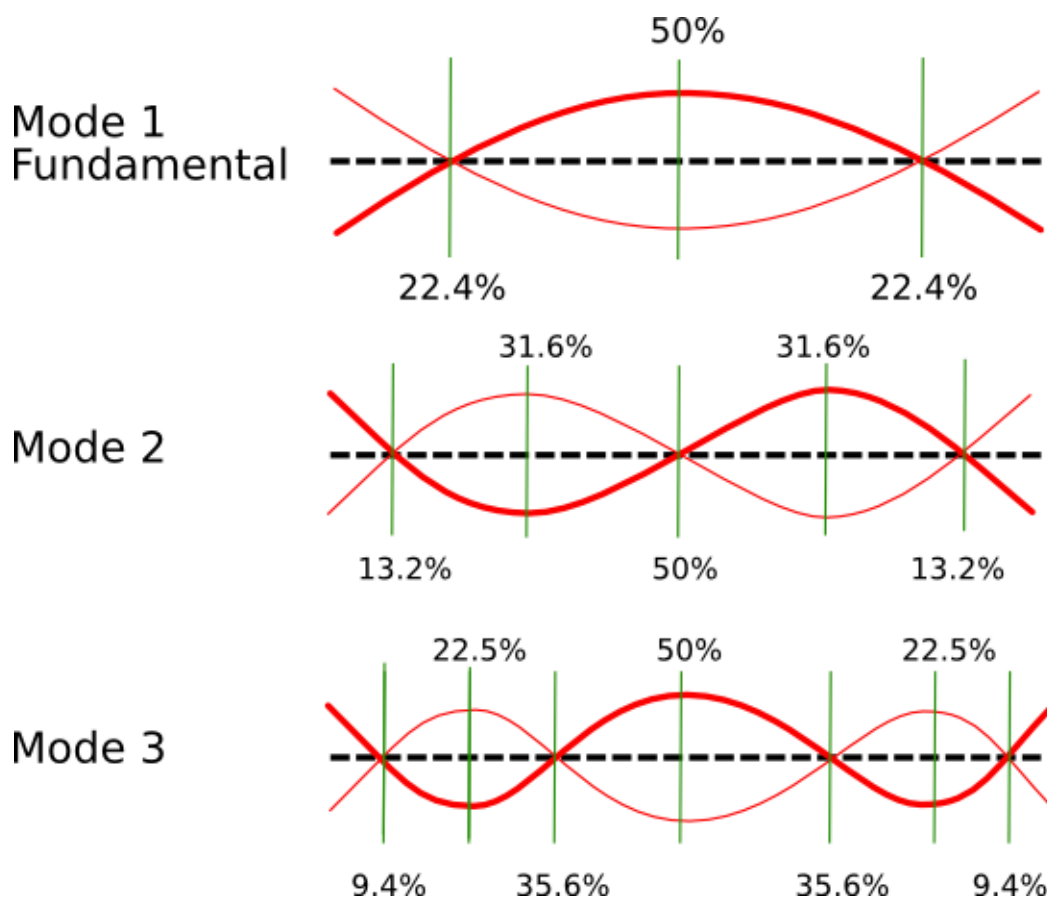

Figure 1. This figure shows motions for first three modes of a steel bar. The steel bar is not help fixed at either end. Based on a Figure by Bart Hopkins.
3. Record while you play a scale on the copper pipe lengths. Make a figure similar to Figure 4. You can cut and paste audio to make it look nice. Take a snap shot of your Figure for your lab report! (Command shift 4 and then mail it to yourself!) Can you see any patterns in the overtone spectra. Which overtones depend on pipe length? Bending modes such as shown in Figure 1 are likely to depend on pipe length, whereas motions like those shown in Figure 2 will not depend on pipe length. You may need to look at overtones up to 5000 Hz or so to find some that don't vary with pipe length. Do all overtones shift by the same amount or do groups of them shift together?